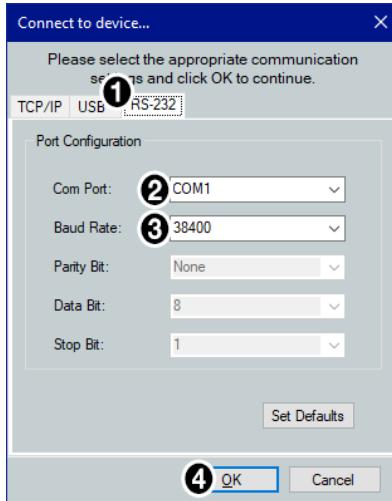

Figure 48. Connecting to device — RS-232
RS-232 tab (figure 48, ①) — To connect to the rear panel RS-232 ports, proceed to step 3).
3. If RS-232 was selected in step 2 (see figure 48):
- a. Click the **Com Port** drop-down menu (2) and select the PC comm port connected to the rear panel RS-232 port.
- b. Check the **Baud Rate** displayed in the comm port selection window (2). If the baud rate does not match the device rate, click the Baud Rate drop-down menu and select the desired baud rate. The default is 38400.
- c. Click **OK** (4).